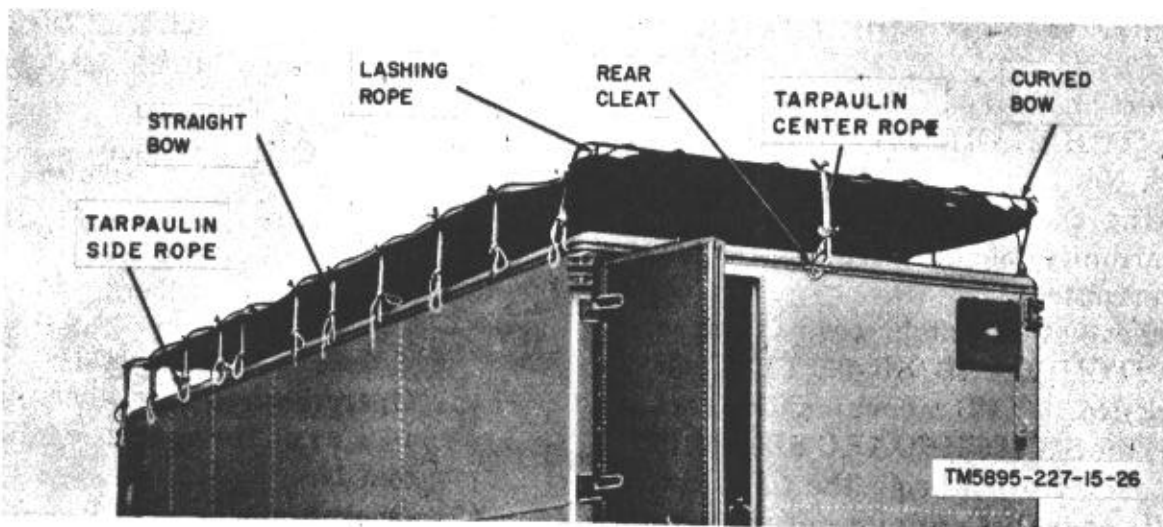

Figure 26. Canopy installed.
b. Install a curved bow at the front and rear of the van roof (fig. 26), and the straight bows, by positioning the bow locating pins and securing the bow wingnuts. Use the 12-foot ladder (para. 20d).